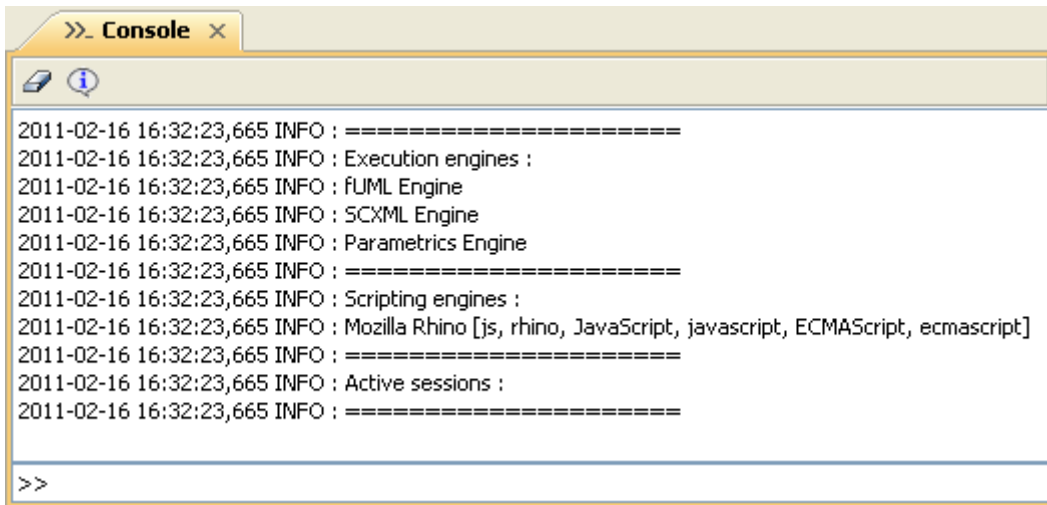

Figure 26 -- Runtime Information of Cameo Simulation Toolkit
|  | Show Runtime Information | To the runtime information of the Cameo Simulation Toolkit. The runtime information compose of the registered execution engines, available scripting engines and the active simulation sessions (Figure 26). |
1. Either (i) click a row that has a runtime object to be exported in the Name column and click the **Export to New Instance** icon on the **Variables Pane** toolbar or (ii) right-click it and select **Export to New Instance** (Figure 26).